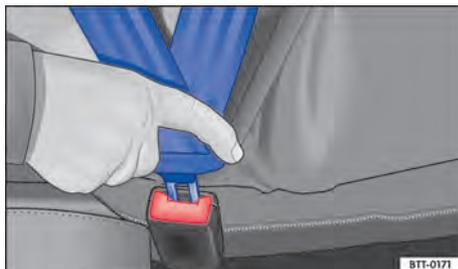

Fig. 31 Inserting the seat belt latch plate into the buckle.
4. Insert the latch plate securely into the buckle belonging to the occupied seat → Fig. 31.